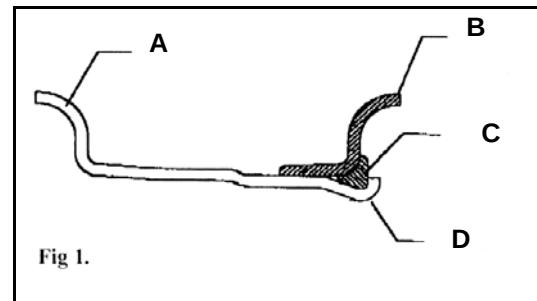

Fig 1.
- Place the loose flange against the tyre bead in the orientation shown in Fig. 1. Push it into place sufficient to clear the rim gutter (groove) to enable the lock-ring to be fitted.